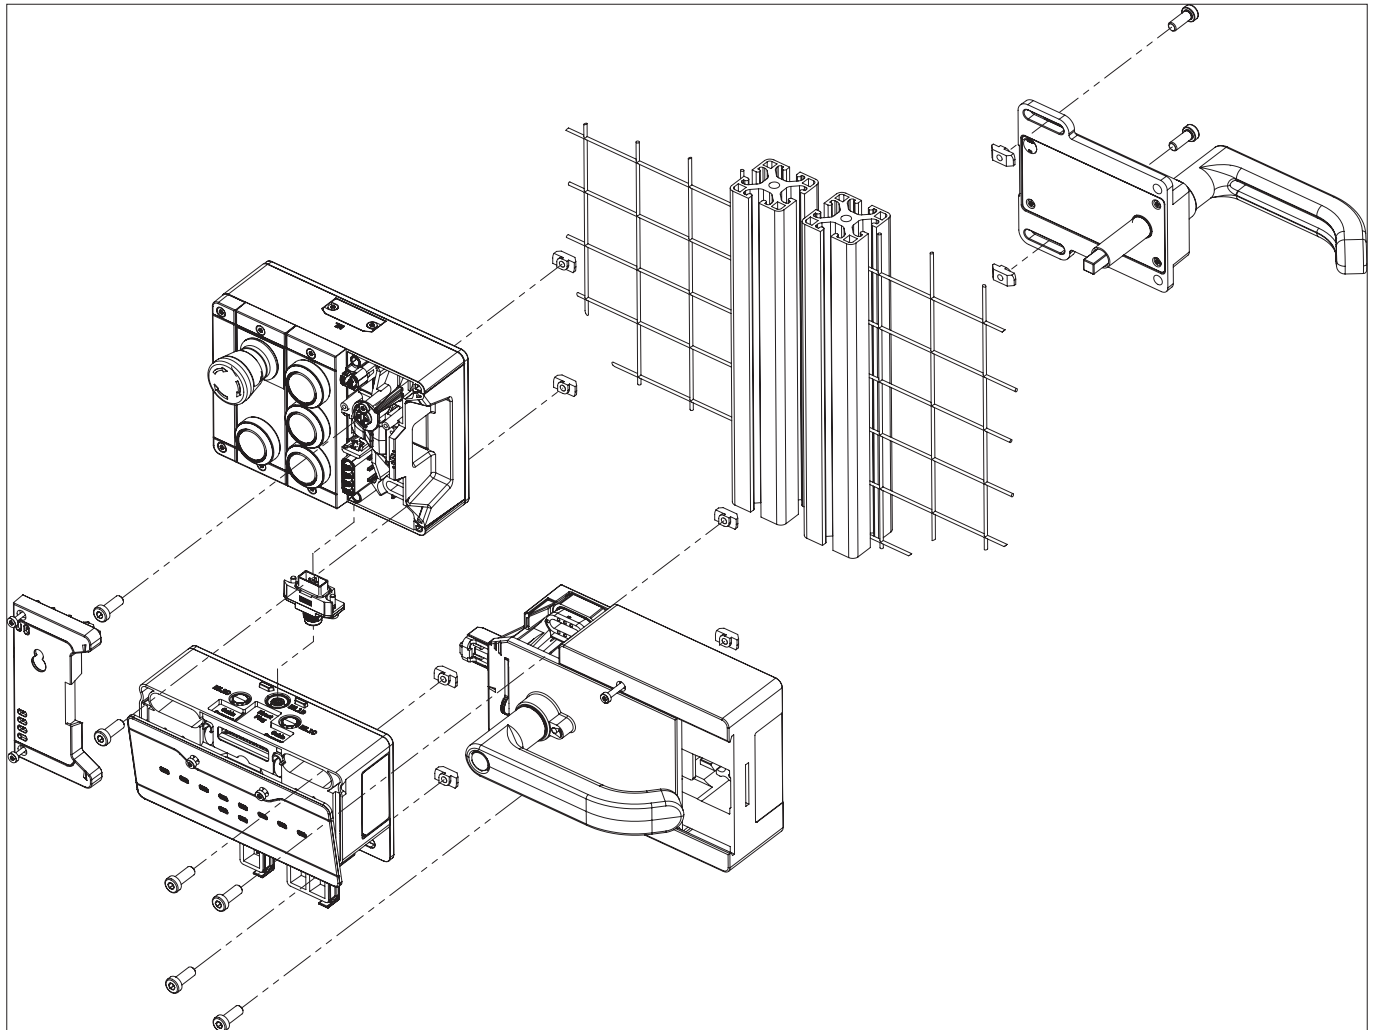
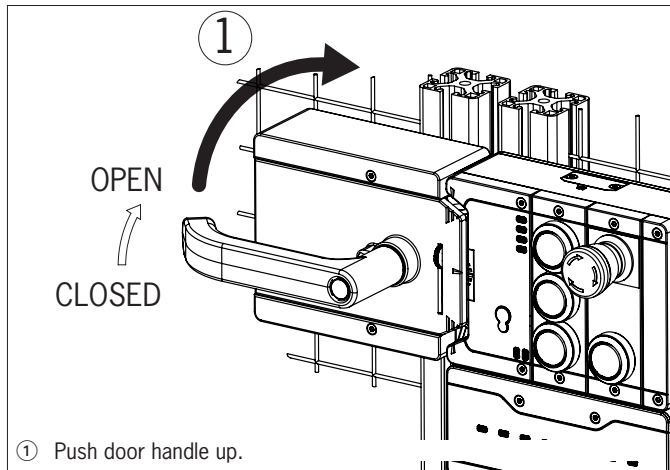
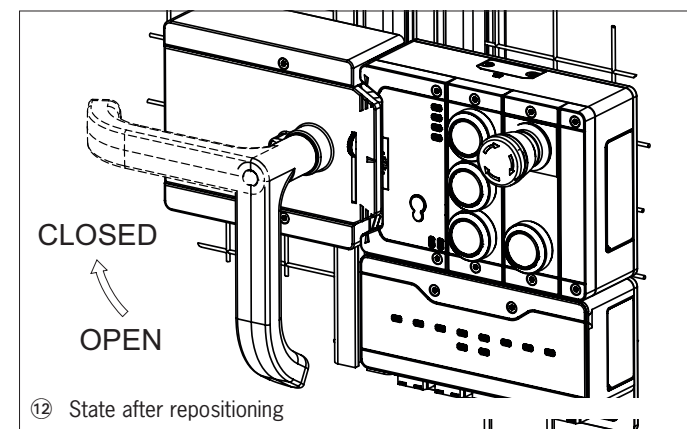

Fig. 9: Installation example for door hinged on the right (general view)
Fig. 11: Changing actuating direction, step ①
Fig. 16: Changing actuating direction, final state
- Adjust escape release axis at right angles to the handle module. See Fig. 9.
- › During mounting, pay attention to correct alignment. Use the alignment aids on the housing for the interlocking/locking module and on the housing for the handle module (see Fig. 9).
For mounting steps, see Fig. 9 and Fig. 11 to Fig. 16.
- › The system is mounted the other way up for doors hinged on the left. In other words, the guard opens by pressing up the door handle (see *Fig. 11*). For this reason the actuating direction of the door handle must be changed (see *Fig. 11* to *Fig. 16*).